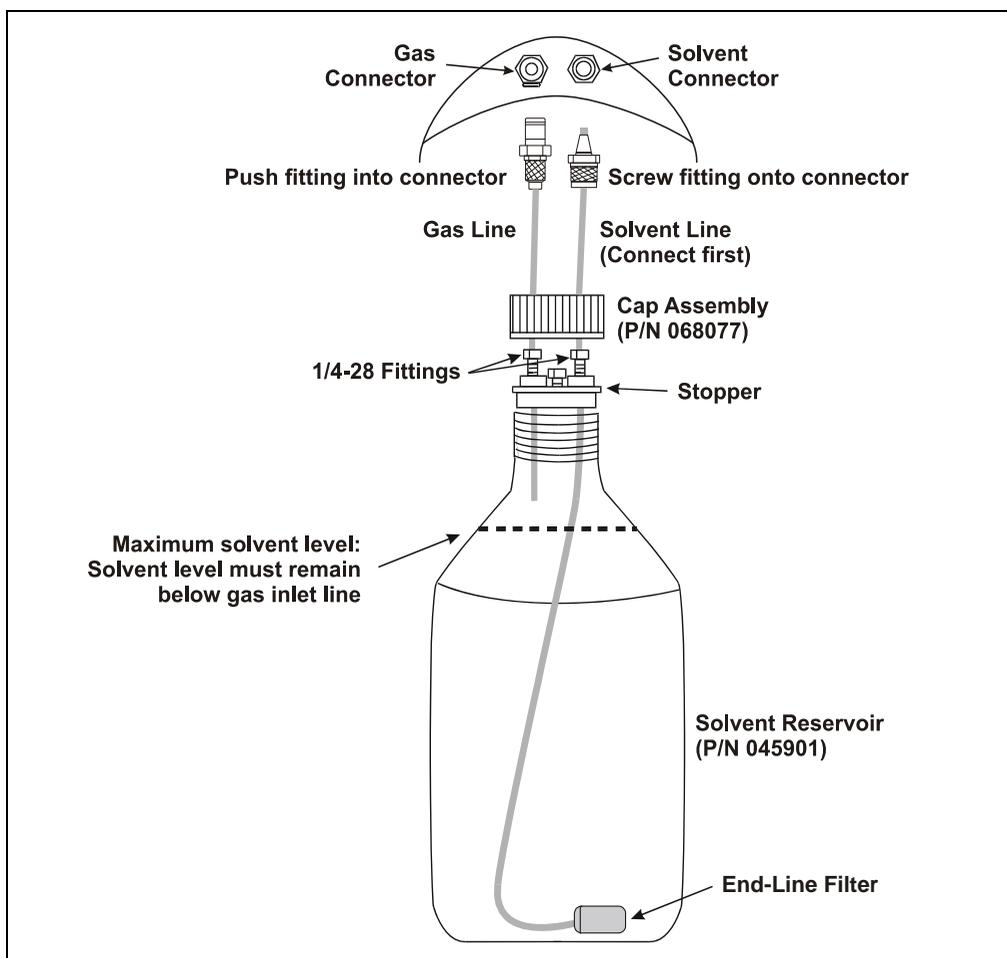

Figure B-4. Solvent Reservoir Connections (Top View)
2. Fill the solvent reservoir with prepared solvent to the level indicated in Figure B-4.
4. Insert the solvent outlet line extending from the underside of the cap assembly (P/N 051977) into the solvent reservoir (see Figure B-4). Make sure the end-line filter rests on the bottom of the bottle.